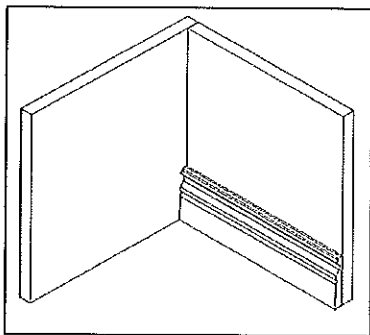
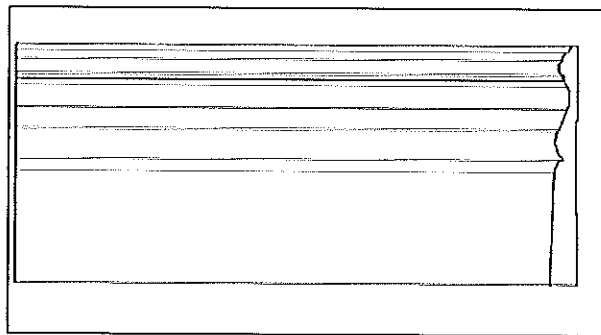
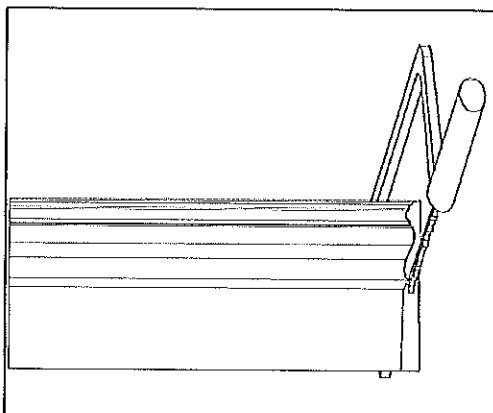
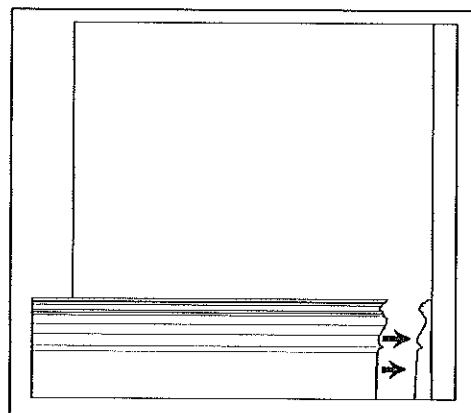

Figure 1
Figure 2
Figure 3
Figure 4
- Coping involves cutting one piece of moulding flat on one end to butt tight against the wall (Figure 1). Then make a miter cut on the intersecting piece of moulding (Figure 2). The exposed profile serves as a guideline for the coping saw. Follow the profile with the coping saw at a right angle to the moulding face (Figure 3). This cut results in a duplication of the moulding pattern that will then fit tightly against the face of the first moulding (Figure 4). The adjoining piece of moulding is coped, cut out to fit the profile of the original piece at a right angle. Due to the precision and tools required to cope moulding, we recommend that this type of installation be done by a professional or highly skilled do-it-yourselfer.